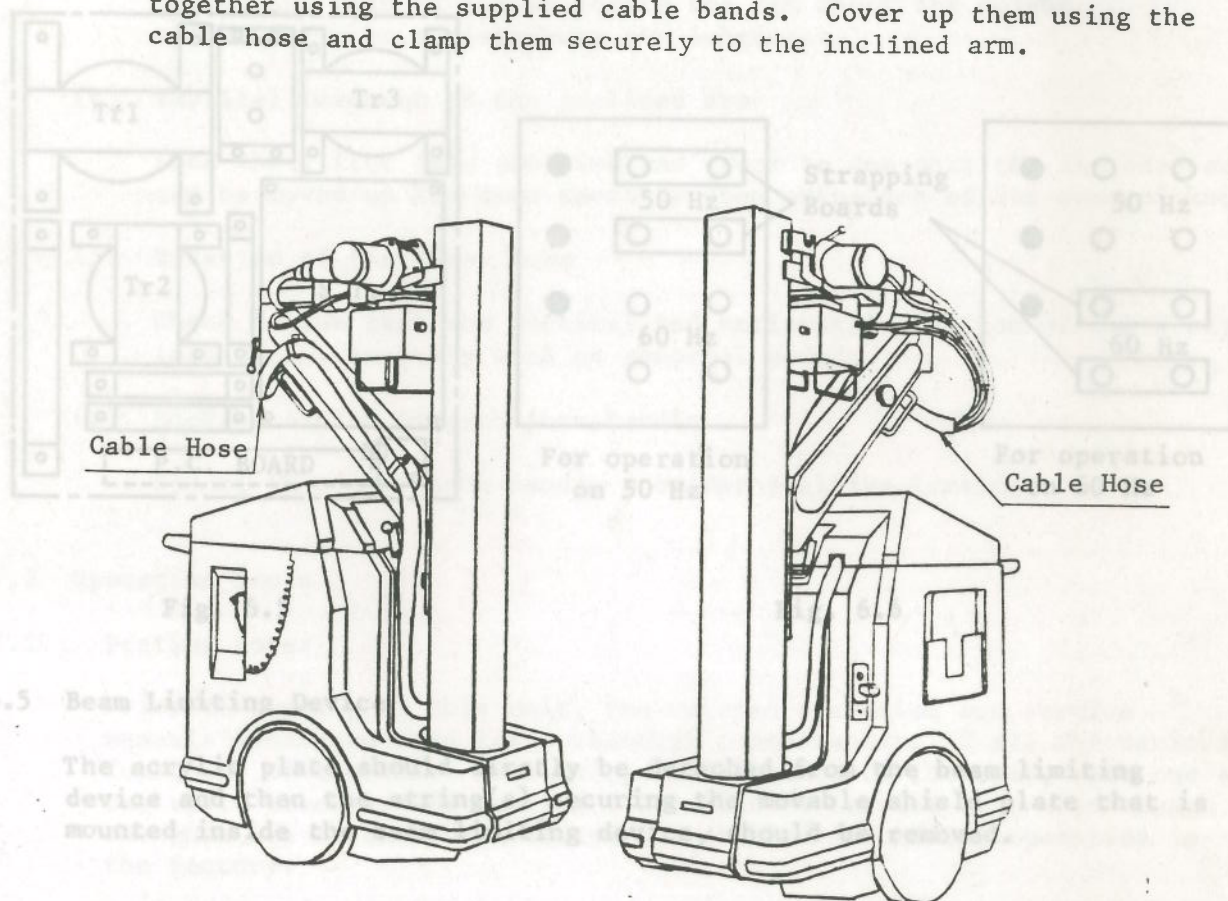

Fig. 6.4
Route the low voltage cables of the beam limiting device and of the dark X-ray shutter along the high potential cables, taking into account the possible movement of the beam limiting device and the X-ray tube shown in Fig. 6.4. After routing this operation, tie the high potential and low voltage cables together using the cable bands. Cover up the cables using the cable hose and secure it to the support arm.
- (9) Cable routing. Check the wire connection to the input terminals of the transformers, Tr1 and Tr2 to be correct referring to the line voltage supplied. Route the low voltage cables of the beam limiting device and of the dark X-ray shutter along the high potential cables, taking into account the possible movements of the beam limiting device and the X-ray tube. As shown in Fig. 6.4 below, after completing this routing operation, tie the high potential and low voltage cables together using the supplied cable bands. Cover up them using the cable hose and clamp them securely to the inclined arm.
- (10) Reattach the previously removed top cover to the X-ray unit.
- (11) During movement of the mobile X-ray unit, the X-ray tube must retain the condition shown in Fig. 6.4. Before moving the unit, therefore, check to see that the X-ray tube is securely locked to the support column and also check that the parking function of the unit works correctly.